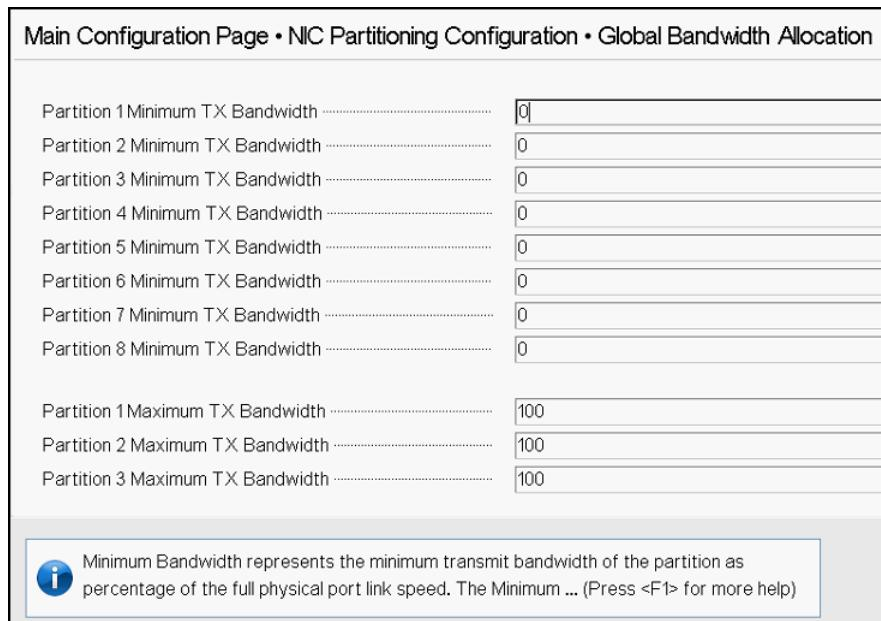

Figure 5-16. Global Bandwidth Allocation Page
3. On the Global Bandwidth Allocation page (Figure 5-16), click each partition minimum and maximum TX bandwidth field for which you want to allocate bandwidth. There are eight partitions per port in dual-port mode.